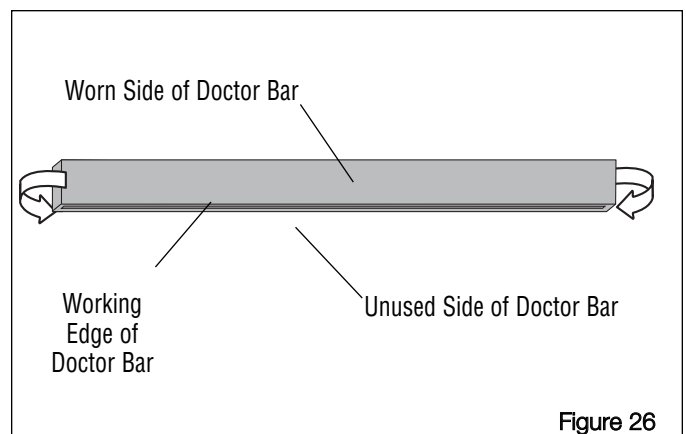

Figure 26
- b. If remanufacturing a Cartridge with an Odyssey® Doctor Bar already installed, the Bar can be re-used. Simply turn the Bar end-to-end for a second cycle (Figure 26). DO NOT flip top-to-bottom. The working surface of the Bar must face the Developer Roller.